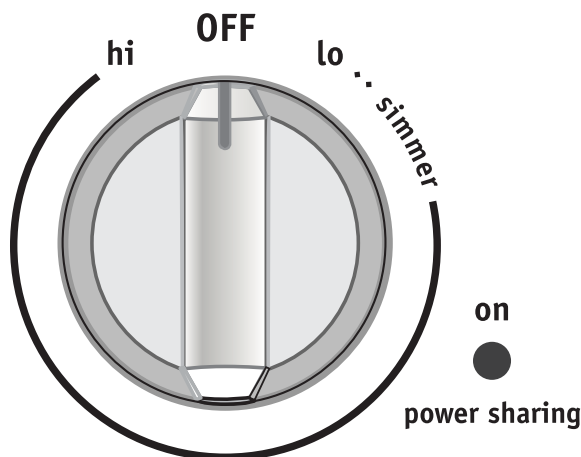

Figure 2
2. Push in and turn the surface control knob in either direction to the desired setting (Figure 2).
In order to give you more flexibility, your induction cooktop is equipped with two cooking zones powered by one generator. To be able to give you access to the highest power ratings, the generator will focus its power onto only one cooking zone. If you use more than one cooking zone at high power, the generator will need to share its power to both cooking zones, thus lowering the power level of one of the cooking zones. The power sharing indicator light will turn green when the power sharing is active (Figure 2).